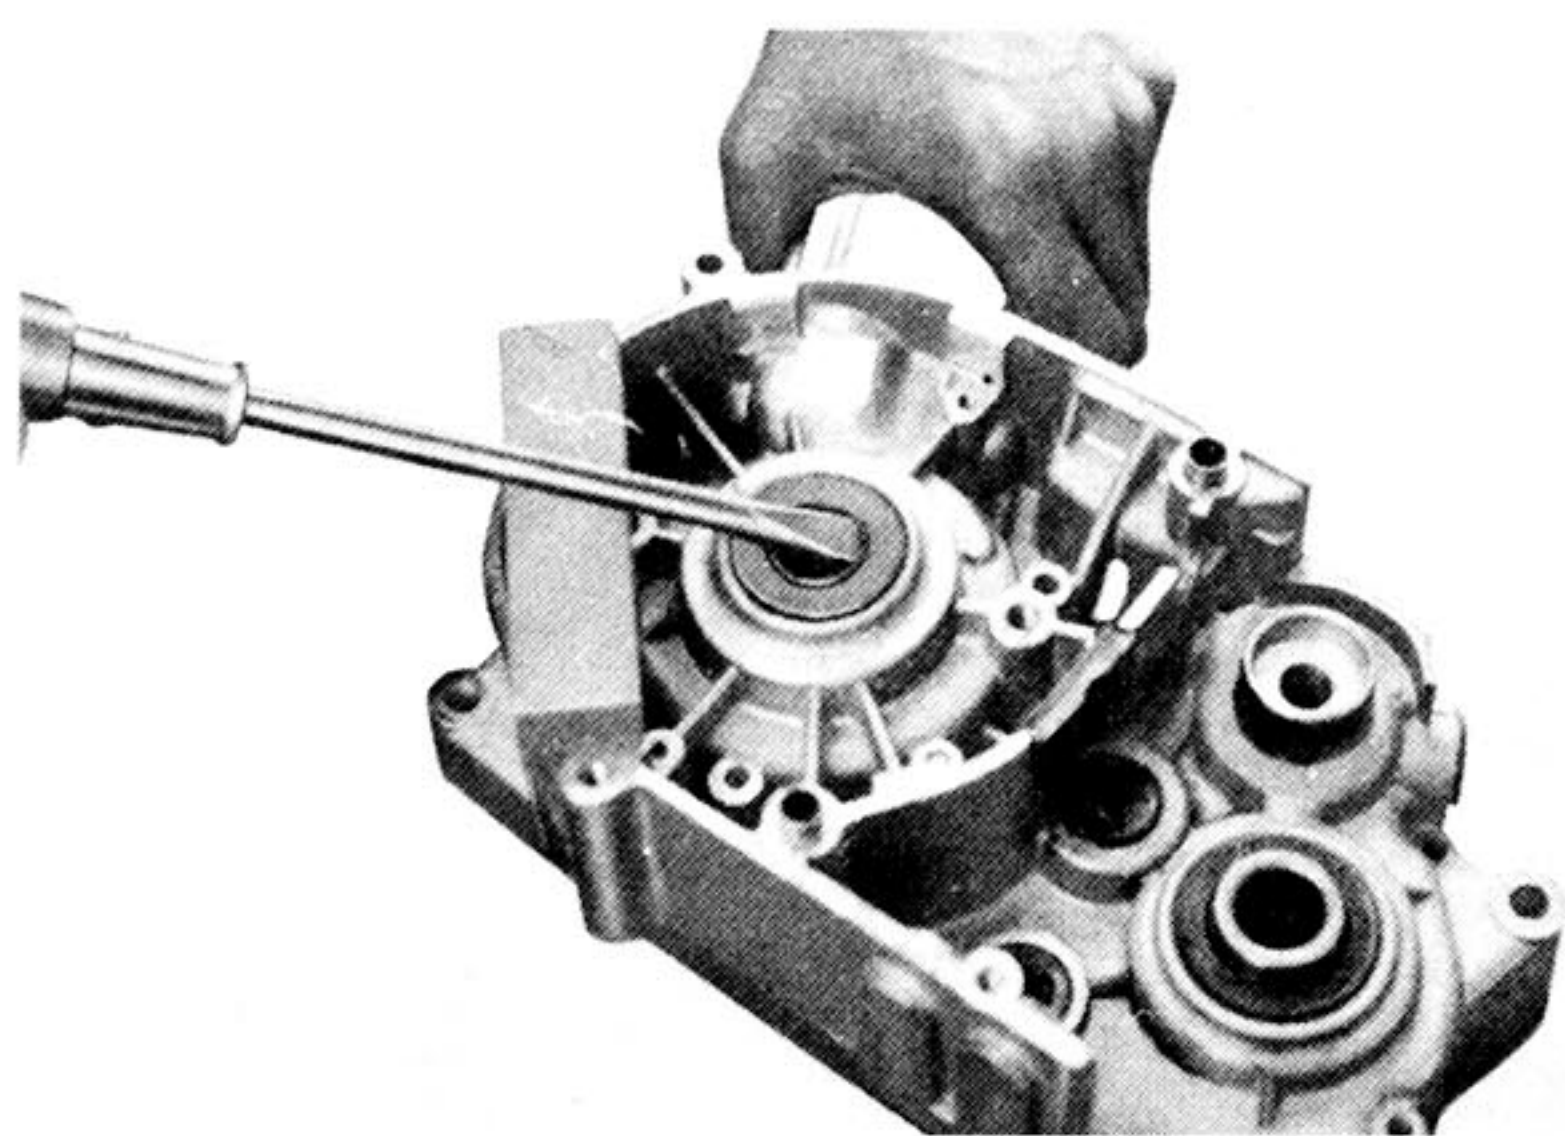

Fig. 4-18-2
(1) Removal
- A. Pry the oil seals out of place with a slot-head screwdriver. (Fig. 4-18-2)